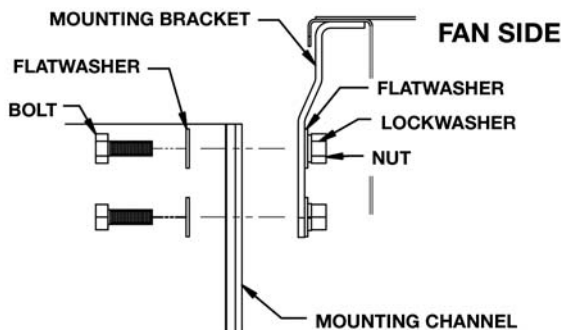

Figure 18 – Attaching Mounting Channel to Mounting Bracket
2. At each hole, attach the mounting channel to the bracket using 3/8" hardware as shown in Figure 18.